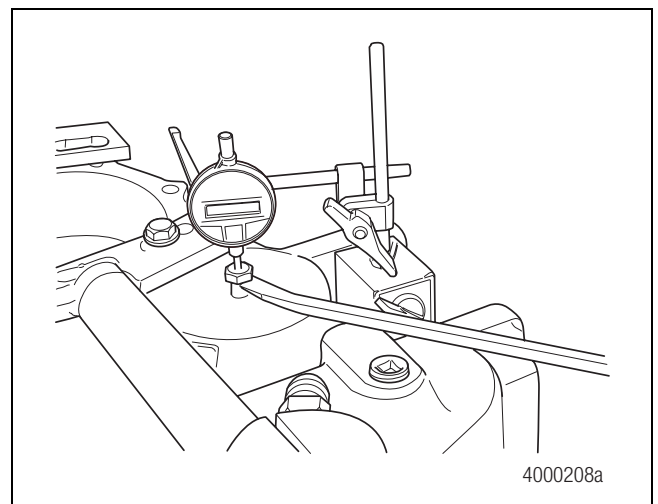

Figure 6.11
7. Set up the dial indicator to check the idler shaft bearing end play. Center the dial indicator on the bolt head. Zero the indicator. Figure 6.11.